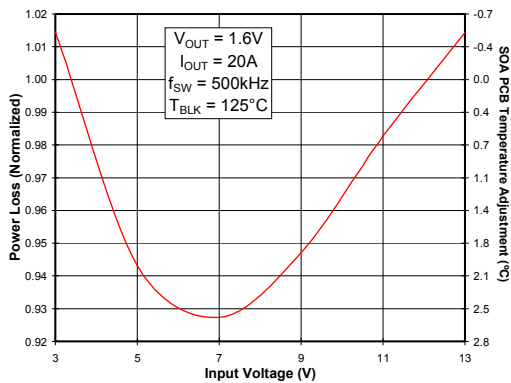

Fig 3. Normalized Power Loss vs. V_{IN}
To make adjustments to the power loss curves in Fig. 1, multiply the normalized value obtained from the curves in Figs. 3, 4, 5 or 6 by the value indicated on the power loss curve in Fig. 1. If multiple adjustments are required, multiply all of the normalized values together, then multiply that product by the value indicated on the power loss curve in Fig. 1. The resulting product is the final power loss based on all factors.
To make adjustments to the SOA curve in Fig. 2, determine the maximum allowed PCB temperature in Fig. 2 at the required operating current. Then, add the correction temperature from the normalized curves in Figs. 3, 4, 5 or 6 to find the final maximum allowable PCB temperature. When multiple adjustments are required, add all of the temperatures together, then add the sum to the PCB temperature indicated on the SOA graph to determine the final maximum allowable PCB temperature based on all factors.
- (Fig. 3) Normalized power loss for input voltage ≈ 0.925
- (Fig. 3) Normalized SOA PCB Temperature for input voltage $\approx 2.6^\circ\text{C}$